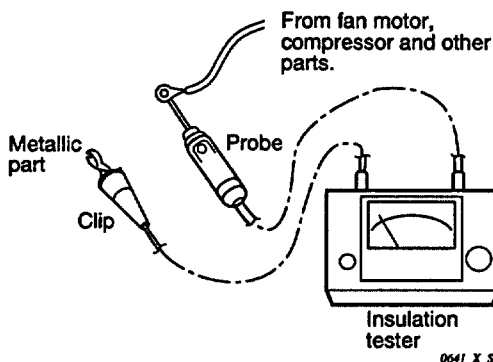

Fig. 9
- Similarly, disconnect the lead wires from compressor, capacitor, etc. (Fig. 9)